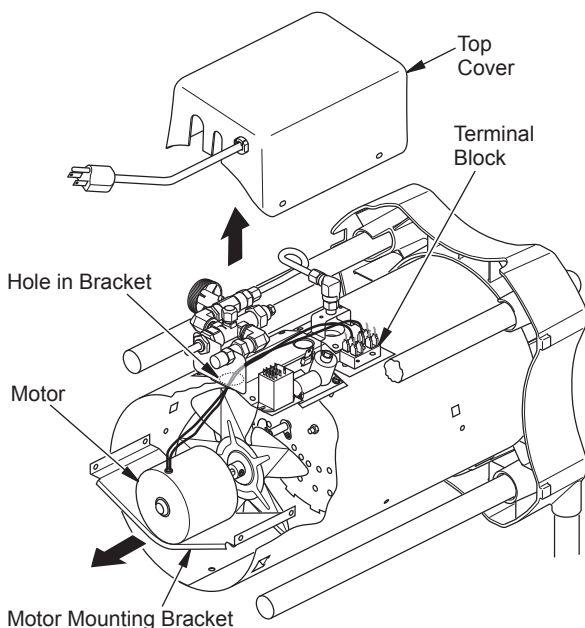

Figure 6 - Removing Fan and Motor
3. Detach the motor and fan wires from terminal block under top cover (see Figure 6, page 10).
- Route motor wires through hole in top of shell (see Figure 6).
- Reconnect motor and fan wires to the same posts on terminal block as removed in step 3, page 9 (see Figure 6).
19. Route motor wires through hole in top of shell (see Figure 6, page 10).
20. Reconnect motor wires to the same posts on terminal block as removed in step 3, page 10 (see Figure 6, page 10).